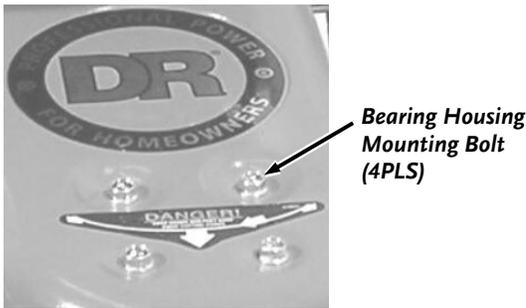

Figure 37
5. Using a 1/2" Wrench, remove the four (4) Mounting Bolts that retain the Bearing Housing from topside of the Trimmer Housing (**Figure 37**).